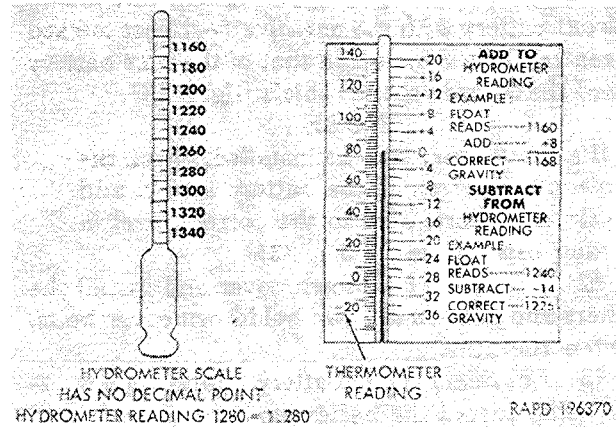

Figure 2-78. Hydrometer scale and temperature correction chart.
(1) Remove the six filler caps from each battery. Test and note the temperature of the electrolyte and test the specific gravity in each cell, using a hydrometer. Note the readings.
(2) A specific gravity reading of 1.275 to 1.300 at 80° F. in each cell indicates a fully charged battery. A reading of less than 1.220 is unsatisfactory. Replace a battery if the reading is below 1.220 (para 2-64).
(3) If the temperature of the electrolyte is higher or lower than 80° F., compute the corrected specific gravity in accordance with the correction chart (fig. 2-78).
(4) Compare the readings in the cells of the battery. The specific gravity in all cells of either battery should be the same, within 0.025. If variation is greater than this, an abnormal condition within the battery is indicated. Check the battery voltage drop (para 2-61). Replace either or both batteries, as required (para 2-64).
(5) Install the six filler caps for each battery after completing the check.